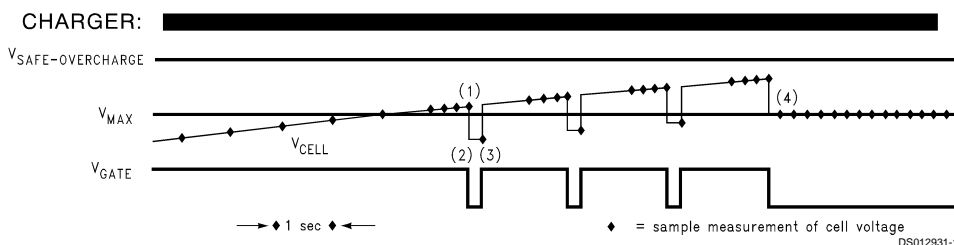

FIGURE 1. Normal Termination of Charging
As you can see in *Figure 1*, the cell voltage must exceed V_{MAX} for 4 consecutive samples before the MOSFET pair is turned OFF (1). Once V_{MAX} is exceeded, the sampling rate increases to 4 Hz. The sampling rate will return to 1 Hz only after 4 consecutive samples result in $V_{CELL} < V_{MAX}$. After the MOSFET pair is OFF (2), the voltage across the cell(s) relax and the cell voltage will drop below V_{MAX} . On the next sample, (3), the MOSFET pair will turn ON. As long as the charger is applied and the MOSFET pair turn ON, the cell voltage will exceed V_{MAX} again. The cycle of 4 samples ON a 1 samples OFF will continue until the cell voltage equals V_{MAX} after the MOSFET pair is OFF, (4). This example exaggerates the rate of these events. The actual operation would result in many ON/OFF cycles at a decreasing duty cycle prior to complete termination of charge. The cell bypass resistor will discharge the cell enough to turn on the GATE over a period of minutes.